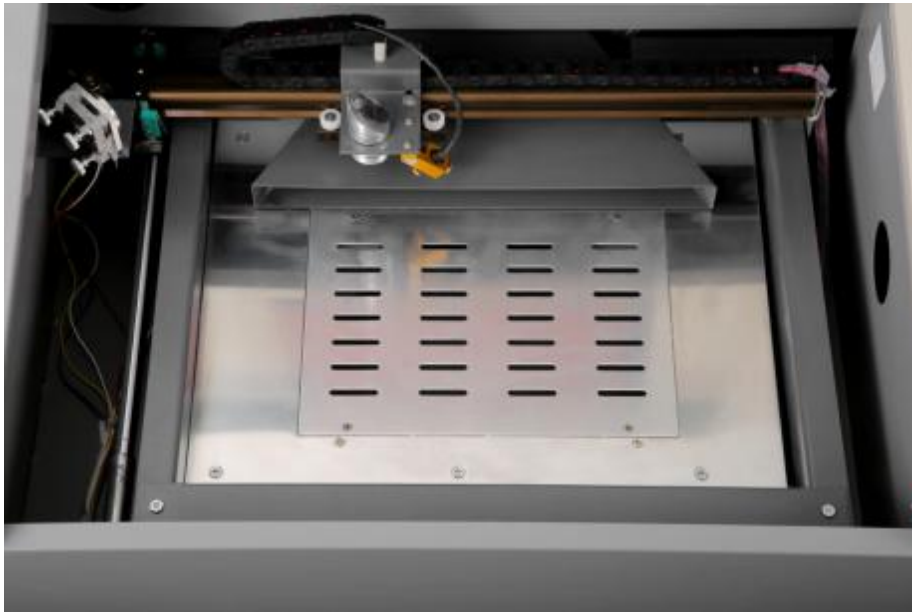

Fig. 5-4 The Third Mirror in Position 1
- b . Move it slowly and gently along the Y. axis guide rail until it is in Position 1 (Fig. 5-4) near the second mirror.